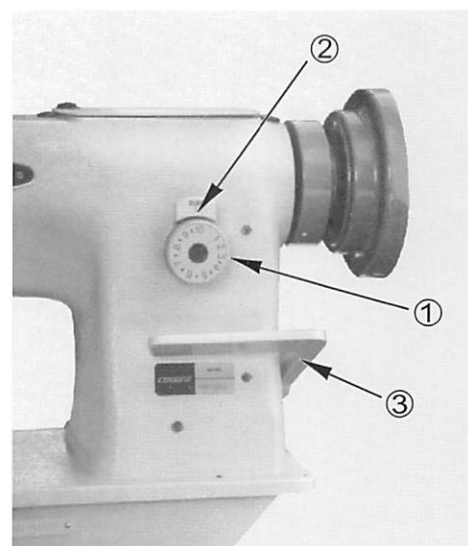
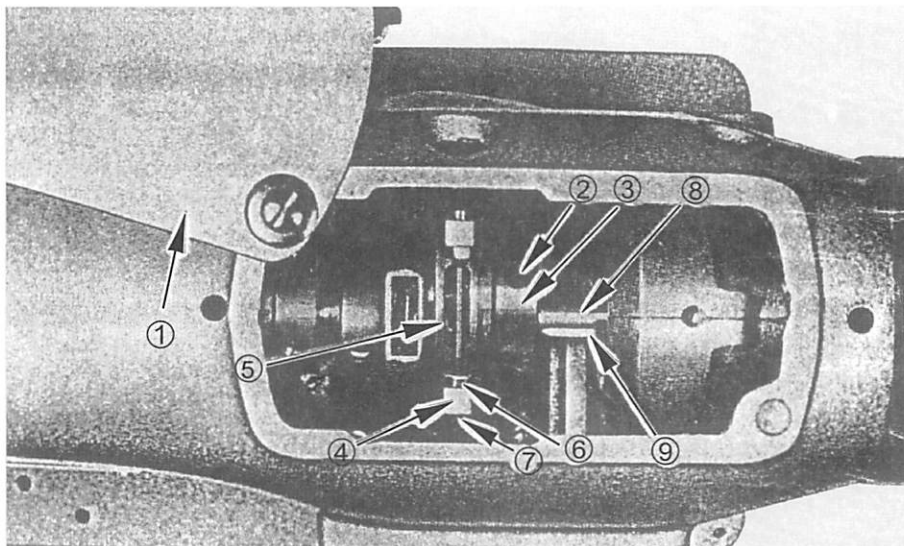

Fig. 12
Fig. 17
### Adjusting the stitch length (Fig.12)
1. Place the feed regulating dial (②, Fig. 12) on the minimum position.
When adjustment is required, use the following procedure to change the position of the cam (③, Fig. 17):
1. Open cover plate (①, Fig. 17) and loosen two screws (②, Fig. 17).
2. Normally put the arrow mark of the cam (③, Fig. 17) on the V ditch (⑨, Fig. 17) of arm shaft (⑧, Fig. 17).
3. As fine adjustment, turn the machine pulley to place the needle at 1mm up from its lowest point and pushing the stitch length regulating lever (④, Fig. 12) up and down, turn the cam (③, Fig. 17) and set this at the point both the needle and the feeder rest.
Incorrect clearance between the fork (④, Fig. 17) of feed forked connection and feed fork collar (⑤, Fig. 17) will bring irregular stitch length or overheating, etc. To adjust this, open the cover plate (①, Fig. 17).
1. To increase the clearance, loosen the screw (⑦, Fig. 17) and turn the screw (⑥, Fig. 17) to the left or counter-clockwise.
2. To decrease the clearance, loosen the screw (⑥, Fig. 17) and turn the screw (⑦, Fig. 17) to the right or clockwise.